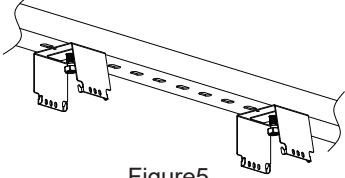

Figure5
Step 1: Mount the bracket on the rail or ceiling (figure 5)